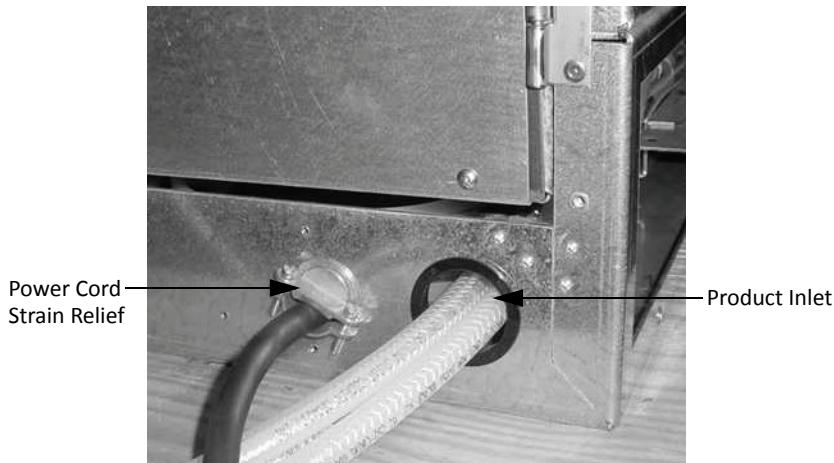

Figure 4.
6. Pull the slack out of cable and tighten the 2 strain relieves (see Figure 4.) Replace the power box cover. **DO NOT** turn on the power at this time.